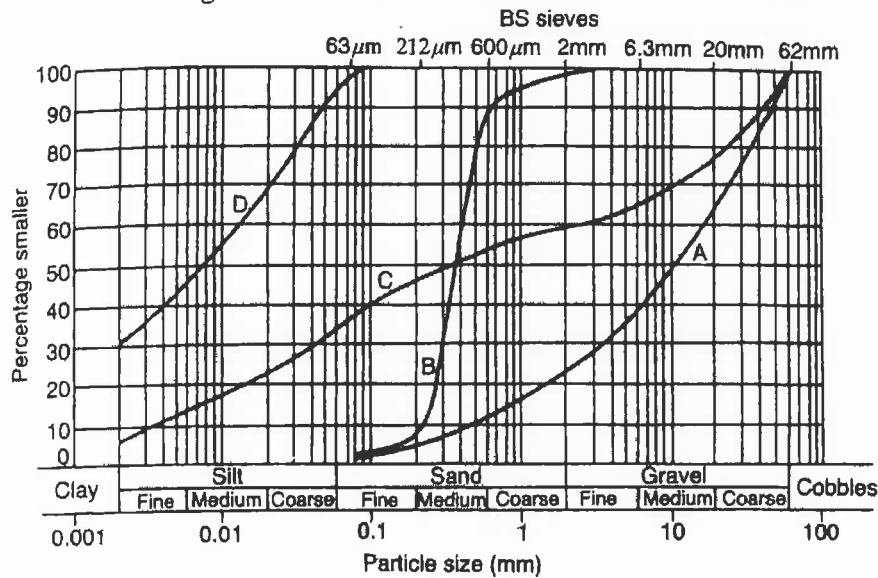

Figure 4
Figure 4 summarizes the grain size results of four different soils A, B, C and D.
- (ii) Which of the soils; A, B, C or D shown in Figure 4 will have the highest shear strength under saturated conditions. Explain. (3 marks)